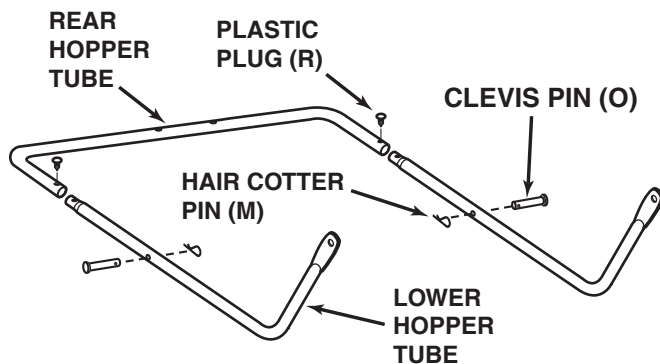

FIGURE 8
- Fit the ends of the two lower hopper tubes into the ends of a rear hopper tube. Align the holes in the ends of the tubes and insert plastic plugs (R). See figure 8.
- Insert a clevis pin (O) from the outside into each lower hopper tube and secure it with a hair cotter pin (M). See figure 8.